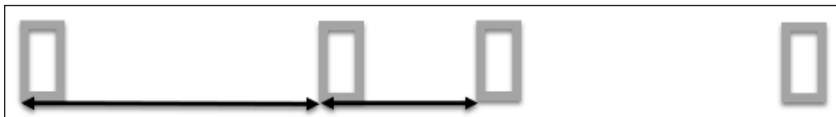

Figure 4: Verify Tube-to-Tube Distance (Top View)
3. Use a jig or the measurements on the contract-specific Shop Drawing to verify the tube-to-tube distance. Refer to **Figure 4**. If no tolerances are listed on the drawing, use $\pm 1/4$ " in all directions.